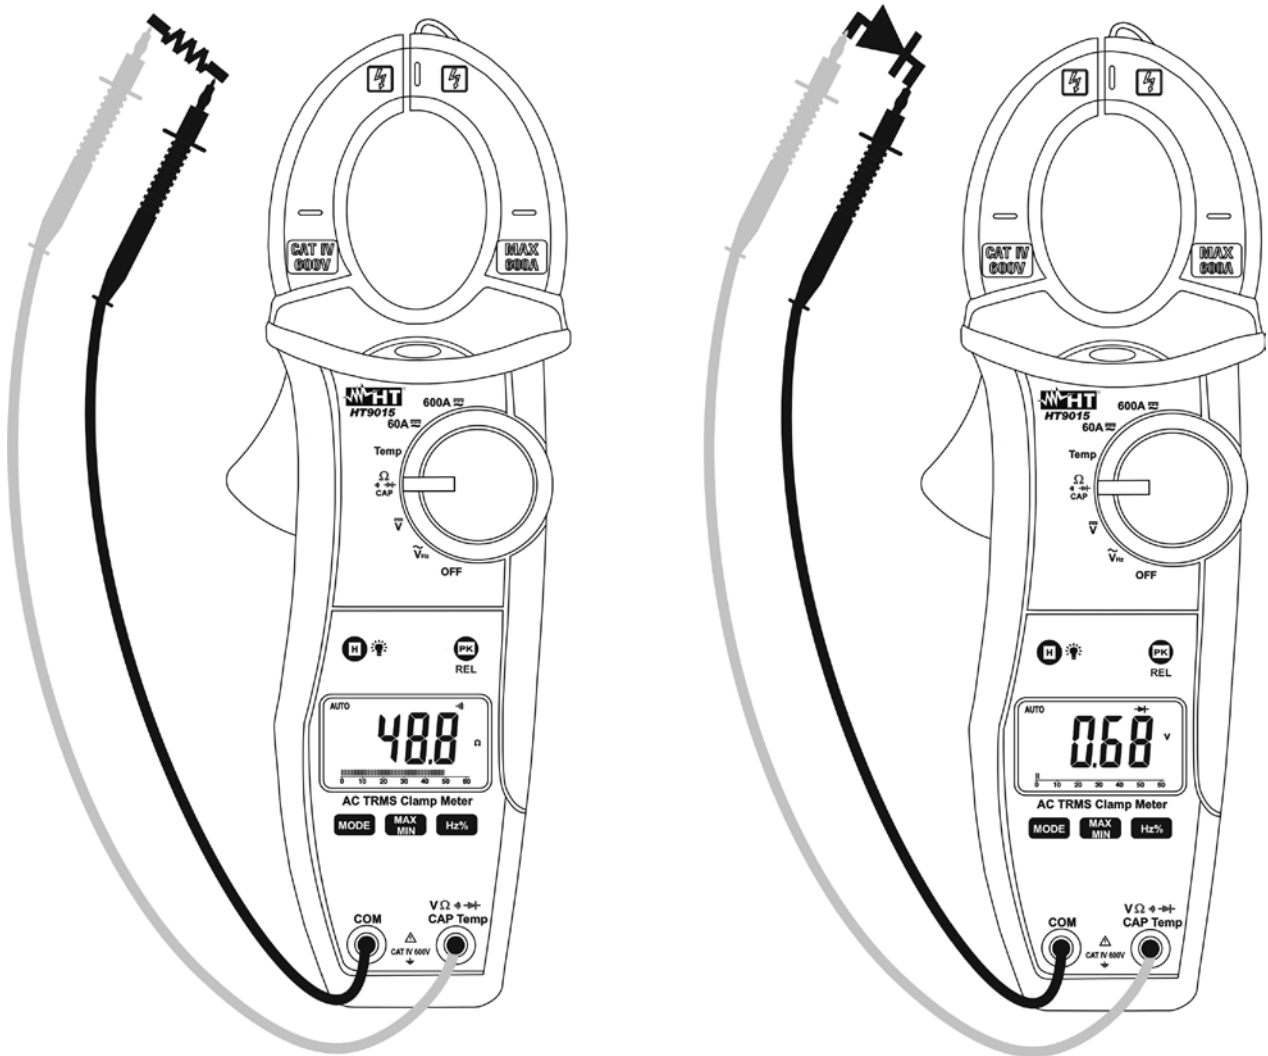

Fig. 6: Taking Continuity test and Diode test
3. Insert the red test lead plug into **V $\Omega \cdot \text{V}$** \rightarrow **CAPHz%Temp** jack and the black test lead plug into **COM** jack and perform continuity test on the object under test (see Fig. 6 – left side). Buzzer emits sound if the measured resistance value is less about 60 Ω
5. Connect the red test leads to the anode of diode on test and the black test lead on the cathode ones (see Fig. 6 – right side). Reverse position of test leads to reading reverse polarization voltage